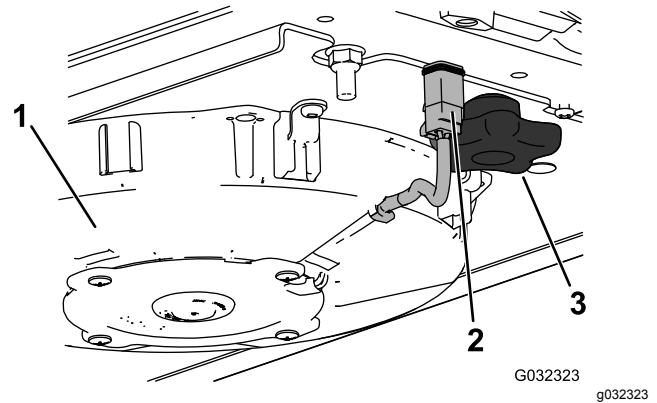
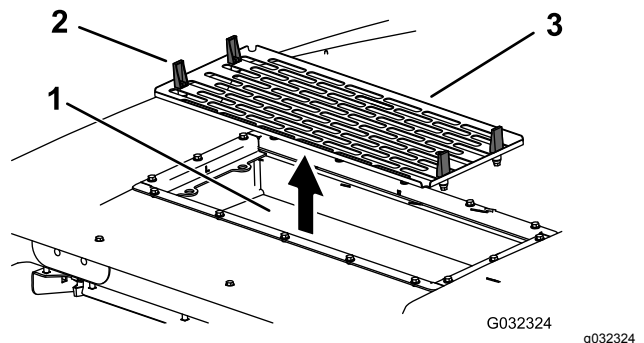

Figure 119
Figure 120
7. Install the air filters, screen, and fan assembly (Figure 118, Figure 119, and Figure 120).
8. Connect the wire for each fan (Figure 119).